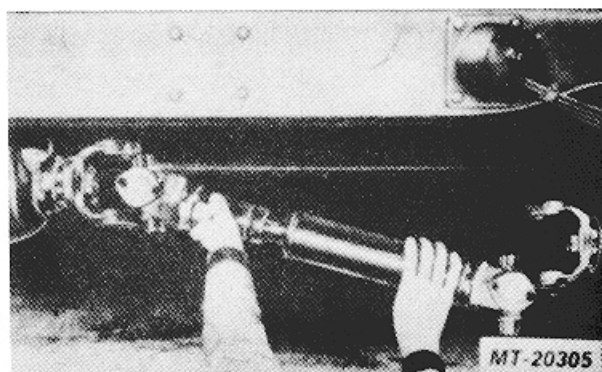

Fig. 16
3. Double End Yoke Type (Bearing Cap Construction)(Fig. 16)